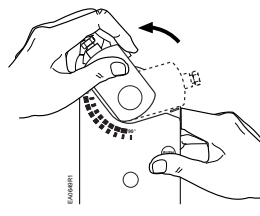

Figure 17.
- b. Hold down the **PUSH** button and rotate the shaft adapter to the left until it stops. See Figure 17.